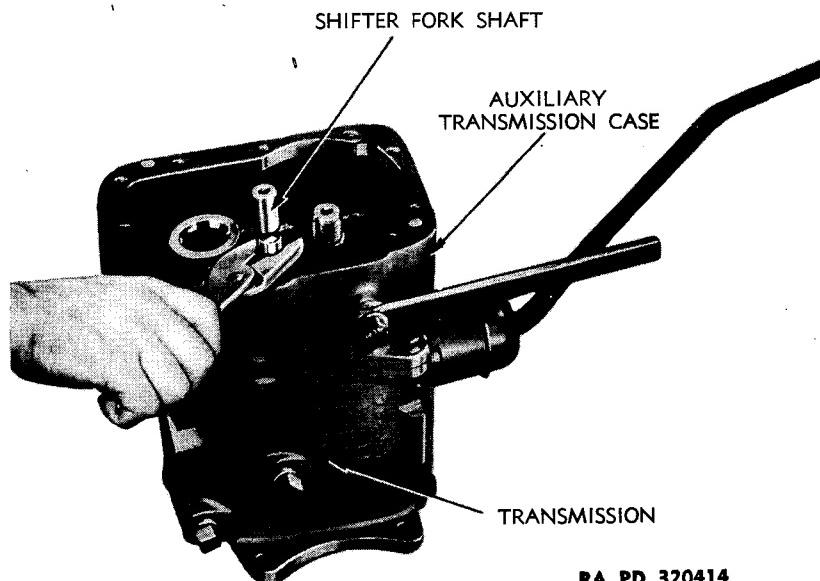

Figure 8 — Shifter Fork Shaft
c. **Remove Sliding Gear.** Pull out shifter fork shaft (fig. 8). This will release shifter fork, detent ball, and spring. Turn shifter fork toward top of case, and lift out sliding gear and shifter fork